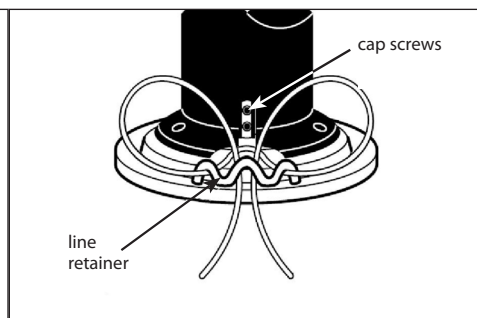

FIGURE 11: Threading trimmer line through center hold.
4. Next, take the ends of the line, cross over the line retainer, and thread the ends through the center hold. **SEE FIGURE 11**